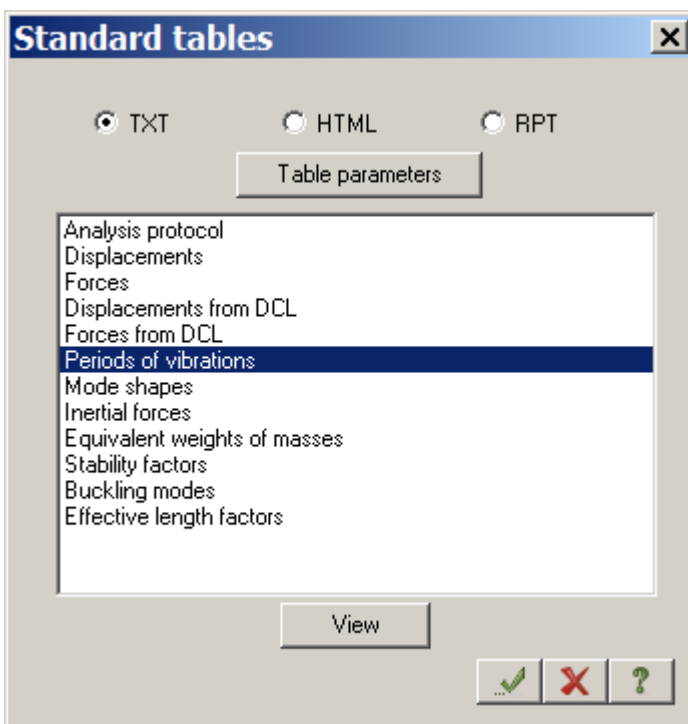

Figure 3.33 **Standard tables** dialog box
- ⇒ In the **Standard tables** dialog box (see Fig.3.33), select **Periods of vibrations** in the list.